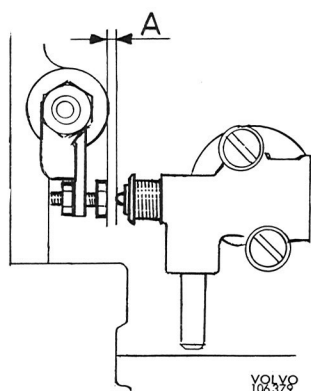

Fig. 2-131. Setting the hot start valve
14. Adjust the hot start valve. With the control rods (Fig. 2-131) pressed down to the bottom position, the distance (A) between rod and adjusting screw should be max 1.0 mm (.04"). (Check to make sure that the control rods move without jamming.)